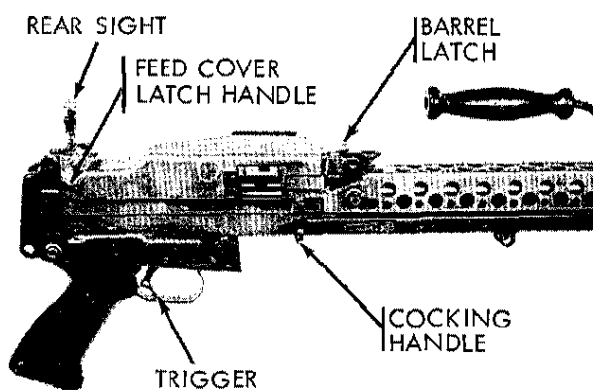

FIGURE 2. BARREL LATCH, FEED COVER LATCH, COCKING HANDLE, AND TRIGGER
a. Barrel Latch. The barrel latch (fig. 2) is located on the top of the receiver, forward of the feed cover. It consists of three parts, latch, lock pin, and spring assembly. Attached to the rear of the latch is a locking pin which locks and holds the barrel into position.
b. Cocking Handle. The cocking handle (fig. 2) is located on the right side of the receiver. This control allows for manual cocking of the weapon when required.
d. Trigger. The trigger (fig. 2) is located below the receiver under the feedway. Its function is to control the firing of the weapon with the selector lever in the "A" (Automatic) position.
e. Feed Cover Latch. The feed cover latch (fig. 2) is located on the right rear end of the feed cover. The function of the latch is to secure the cover in the closed position. Pushing the latch forward unlatches the feed cover from the receiver.